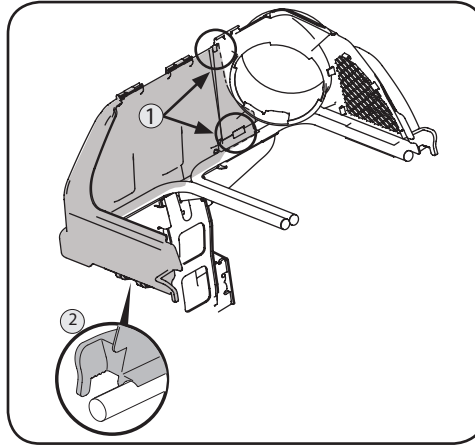

Figure 4-10
- Slide the left side grass catcher cover over the upper chute support and the bag support assembly. Carefully latch the two tabs in place into the front of the upper chute support, see 1 in Figure 4-10. Fit the snaps onto the left side bagger rail support. See 2 in Figure 4-10.